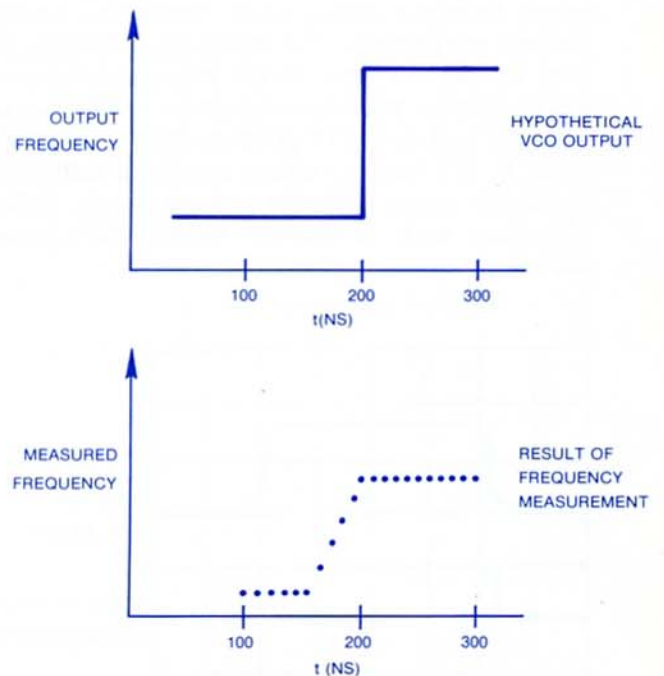

Figure 5. Smoothing Effect of a 50 ns External Gate on Measurement of an Instantaneous Frequency Step
- C. The frequency measurement performed by the 5345A Electronic Counter is an average of the VCO output frequency for the duration of the external gate input. This averaging will have a smoothing effect on any excursions in the VCO output frequency which occur in a time frame on the order of the external gate or shorter than the gate. Figure 5 shows this smoothing effect in the measurement of a hypothetical instantaneous frequency step. In this measurement an external gate of 50 nanoseconds width is being positioned in 10 nanosecond increments. The counter begins to measure an increase in frequency when the gate is opened at the 160 nanosecond point of the time axis. When the gate arrives at the 200 nanosecond position the counter measures a constant frequency. Thus, the instantaneous frequency step appears to be taking place during a 50 nanosecond time interval, which is equal to the width of the external gate.